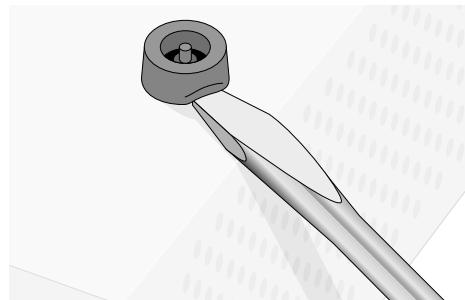

Figure 13 Removing the Feet
4. Remove the snap-on plastic feet from the bottom of the switch, as shown in Figure 13.